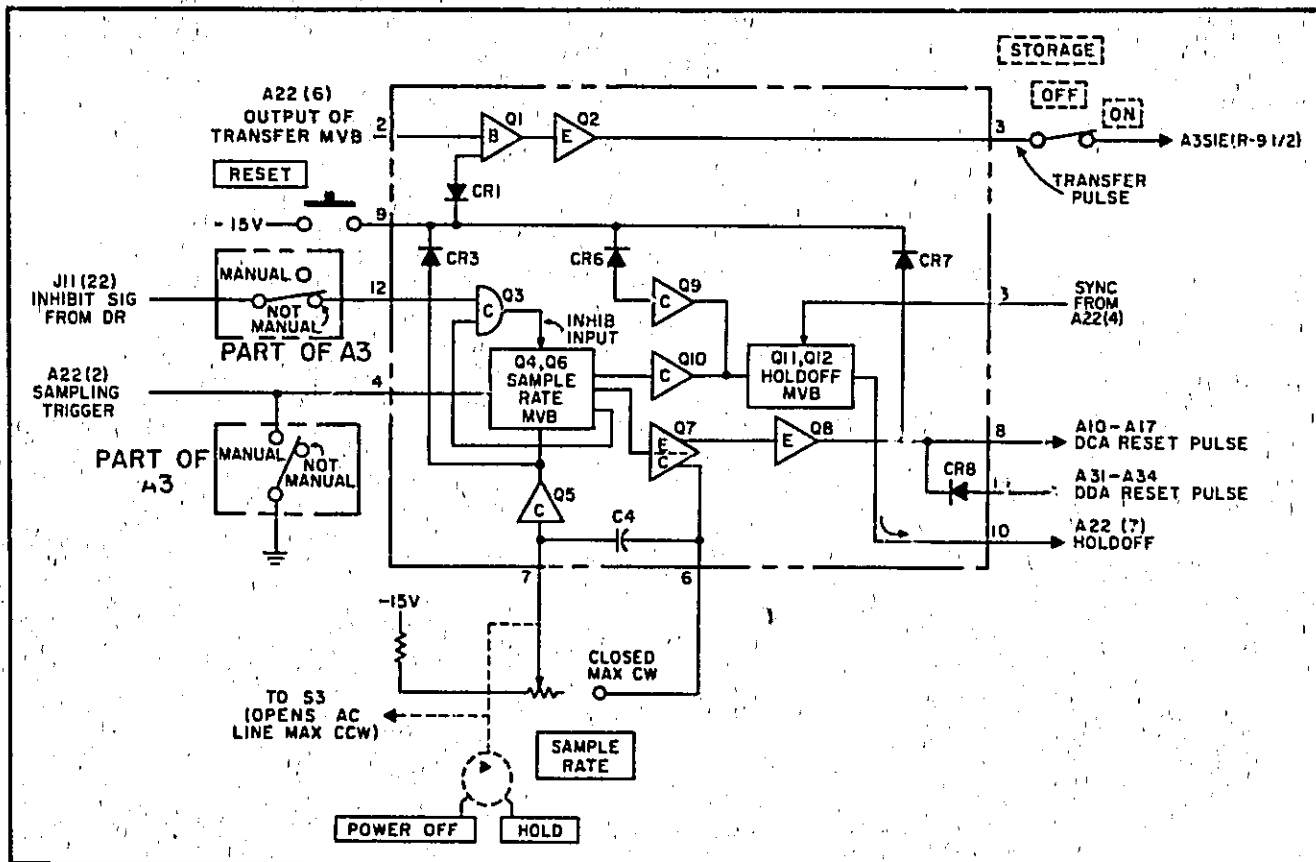

Figure 2-19. Sampling Control Block Diagram
**2-100. GENERAL.** During normal operation, the sampling control assembly receives the positive transfer pulse and the sampling trigger pulse from A22; its outputs are a) the amplified and inverted transfer pulse, b) reset pulses for the decimal counters and decade dividers, and c) the holdoff signal which prevents retriggering of the gate flip-flop in A22. Refer to the block diagram, Figure 2-19, during the following explanation.